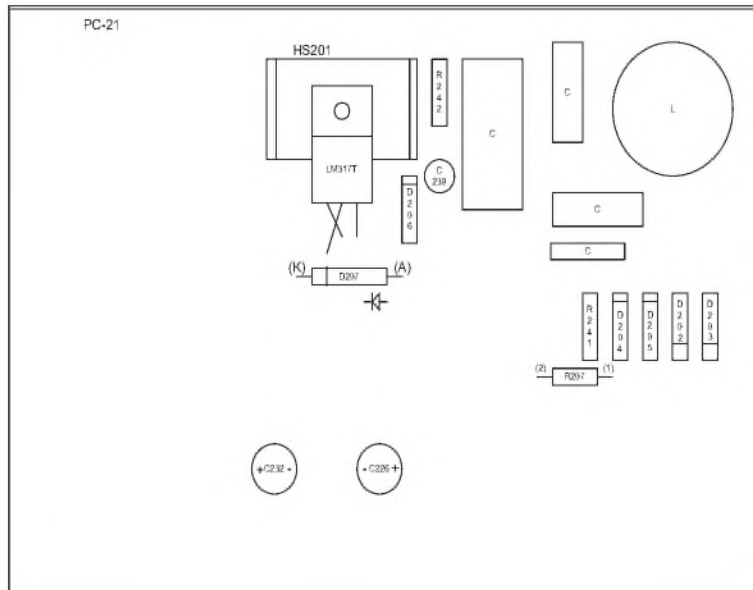

FIGURE 3: Principal parts placement on PC-21.
3. Refer to *Fig. 2* or *Fig. 3* to read pipe length from the curve marked "length inches" line and left axis.
4. Refer to *Fig. 2* or *Fig. 3* to read stuffing density from the stuffing density line and right axis.
FIGURE 3:  $\alpha$ -transmission line length and stuffing density—polyester, cotton, AcoustaStuf. After you decide which pipe frequency  $f\theta$  you want to use for your project, use the length line to read the proper length. The length is in inches on the left axis. At the same  $f\theta$ , read the fiberglass stuffing density and the recommended stuffing amount on the right axis. Stuffing is given in pounds per cubic foot. To convert to metric units: inches divided by 39.35 equals meters. Pounds per cubic foot times 16 equals grams per liter.